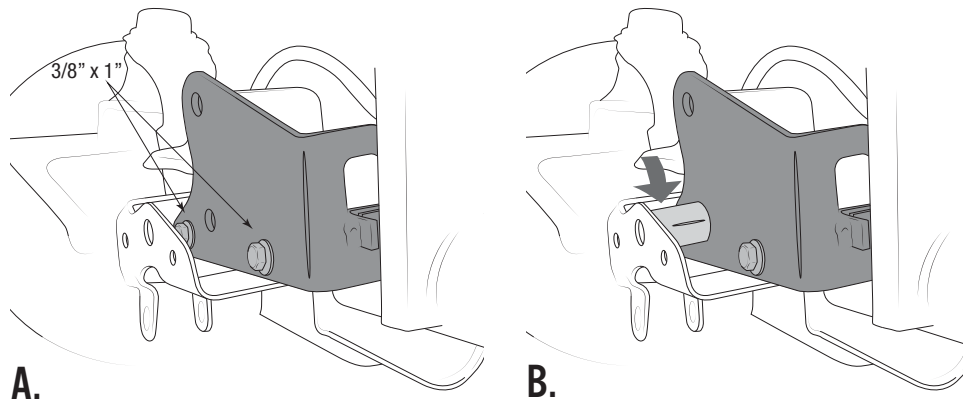

Figure 20
- A. Place bracket with “half moon” cutouts inside the original front track bar bracket and over the axle tube (Fig. 20-A). Insert two of the supplied $\frac{3}{8}$ " x 1.0" L bolts and washers through the small holes in the bracket and the corresponding holes in the stock bracket, then add nuts and hand tighten.
- C. Insert the supplied spacer tube between stock track bar bracket and new bracket (Fig. 20-B), lining it up with the original track bar bolt hole. (This may require slight prying or tapping with a hammer.)